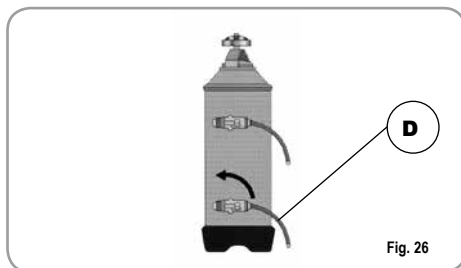

Fig. 26
3) Reposition lever D towards the left (Fig. 26).